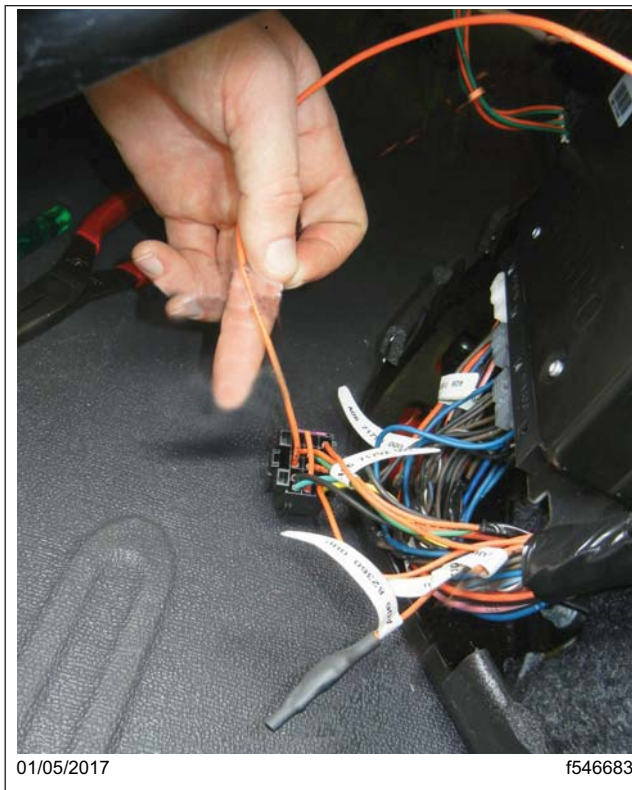

Fig. 35, Wire Inserted into Connector X1A
25. Insert the free ends of single-wire harness A06-93668-000 into ABS module connector X1A, cavity 7. Connect A06-93668-000 into cavity 7. See Fig. 35